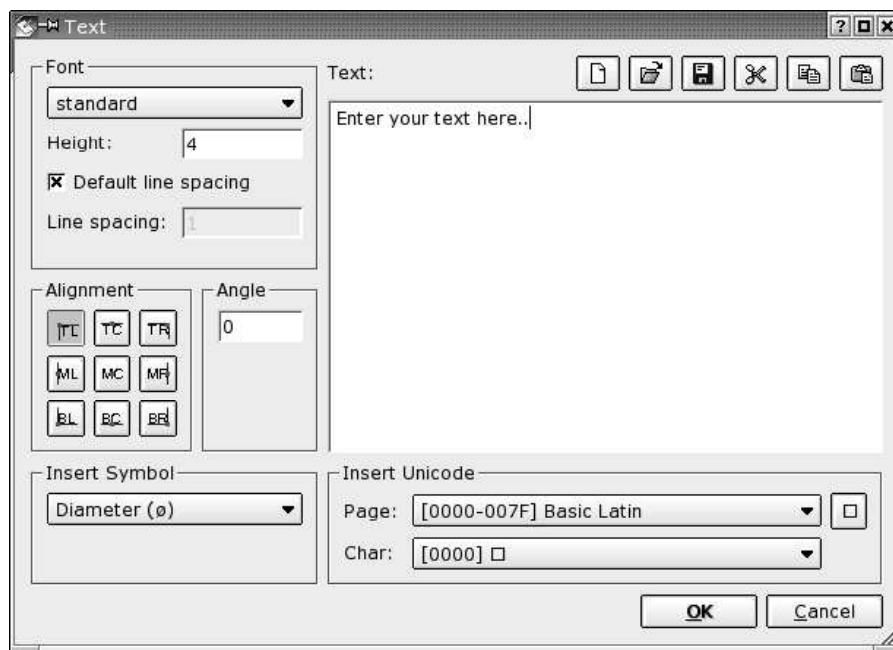

Figure 32: The text creation dialog.
1. Just after launching the tool, the text dialog is presented in which you can choose the font and enter the text you want to create (Figure 32).